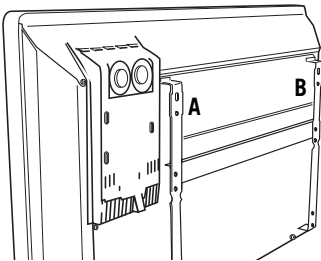

Figure 2
1. Remove the wall mounting bracket from the rear of the heater by squeezing the clips (at A and B in figure 2 below) and pulling towards you.